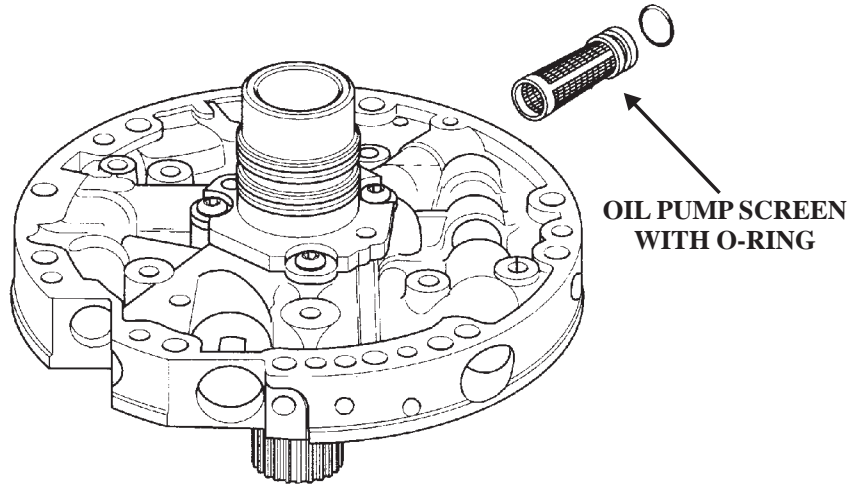

Figure 135
- Low line pressure caused by such things as a missing the conical o-ringed screen in the pump cover, (4L60E Series Only, See Figure 135), a poor VCM internal ground, (1996 trucks and Vans ONLY, See Code 73 Diagnostics), Pressure Regulator Valve stuck open or worn, Actuator Feed Limit Valve wear, mechanically faulty Pressure Control Solenoid or a pump that is incapable of pump volume to name a few.